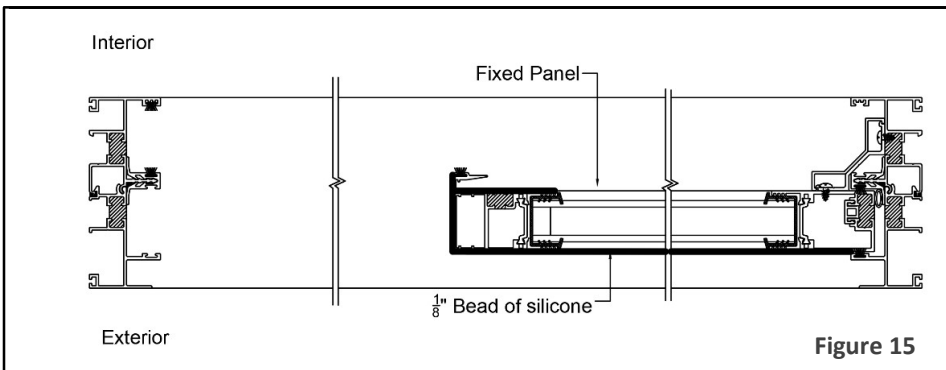

Figure 15
3.6 With the fixed panel completely secured, apply a 1/8" bead of silicone starting from the interior edge of the bottom fixed interlock towards the exterior all the way (figure 15 & 16).